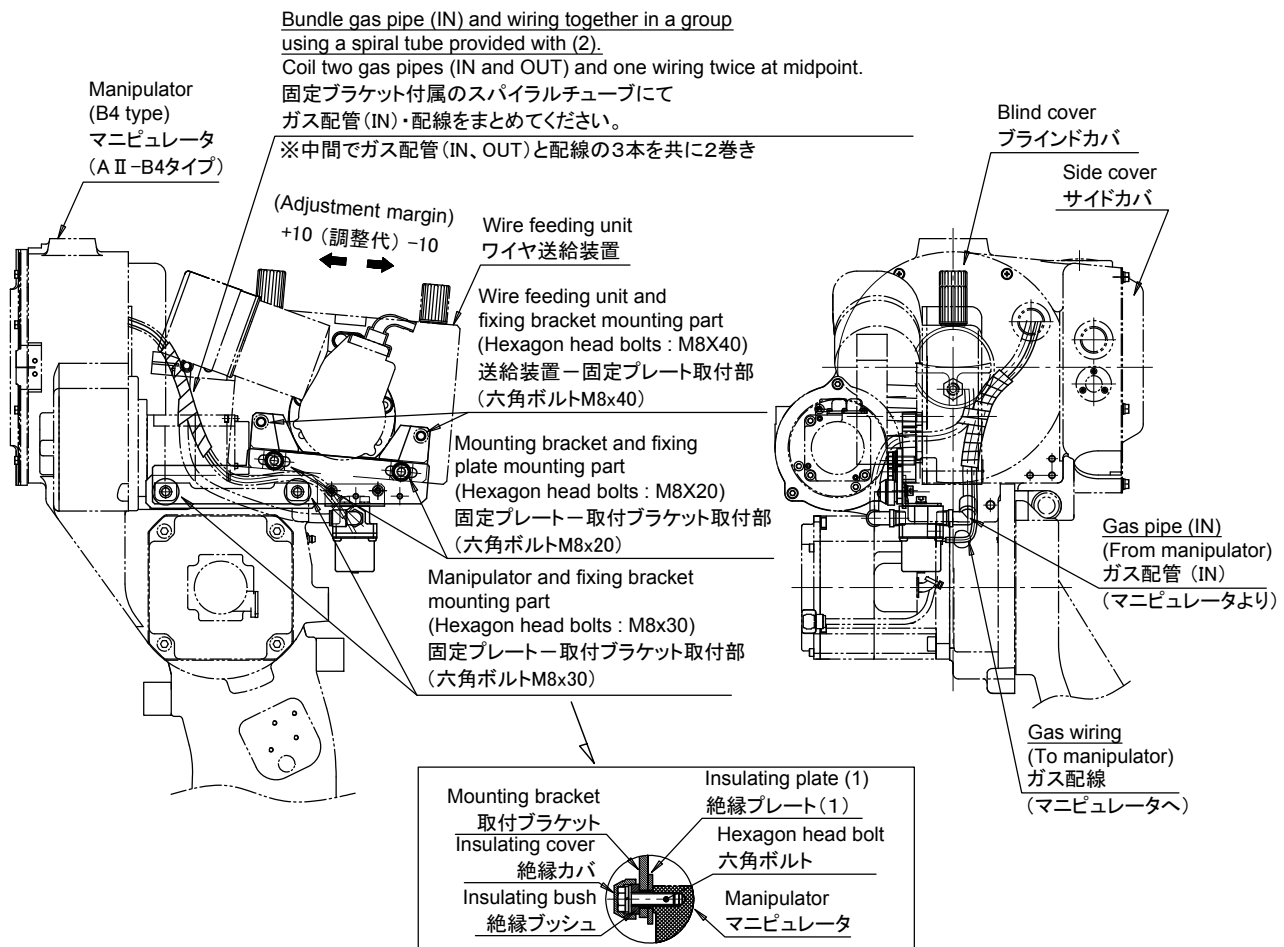

Fig. 2.6 Mounting of manipulator fixing bracket and wire feeding unit (Procedure (7))
- (7) Referring to Fig. 2.6, conduct curing for the connection of gas hoses from the solenoid valve and spiral tubes.
- (8) Dismount the side cover from the robot shoulder.
- (9) Draw out wiring in the shoulder. And, detach the PE bag that protects the connector once.